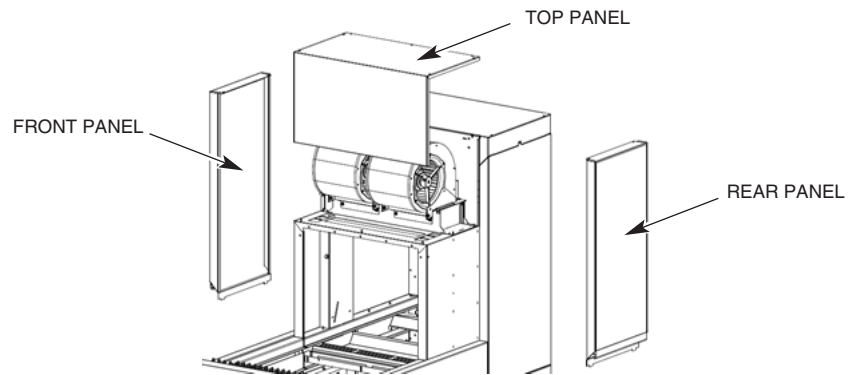

Fig. 21
1. Remove the blower dryer cover panels; front, rear, and top (Fig. 21).